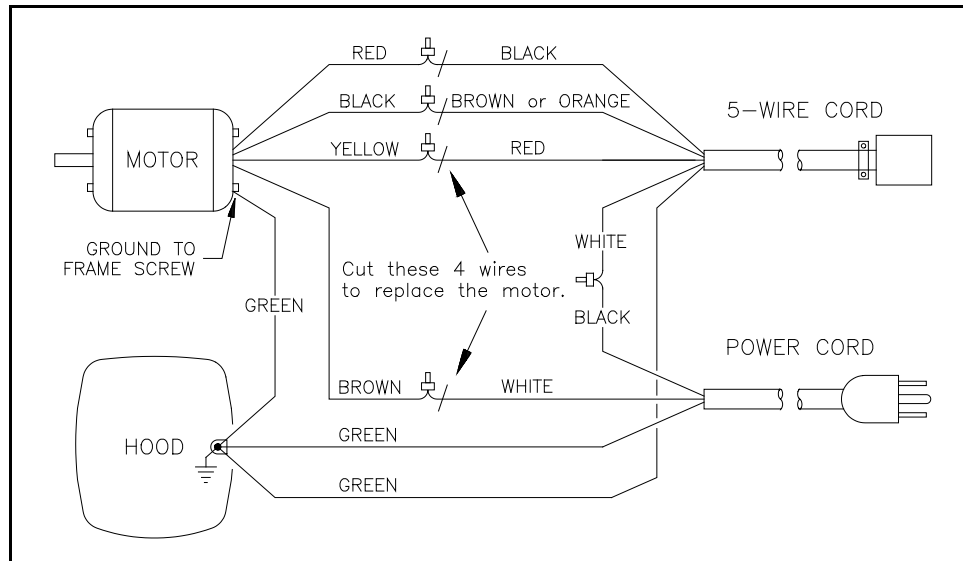

Figure 8. Wiring diagram for Hood & Motor
- 7.2.1 Examine the five wire connectors. Note that one wire connector connects a black cord wire to a white cord wire. **Do not cut these wires.** See Figure 8.
- 7.3.4 Connect the four motor wires with the wire connectors that came with the motor using a wire crimp tool. See Figure 8.